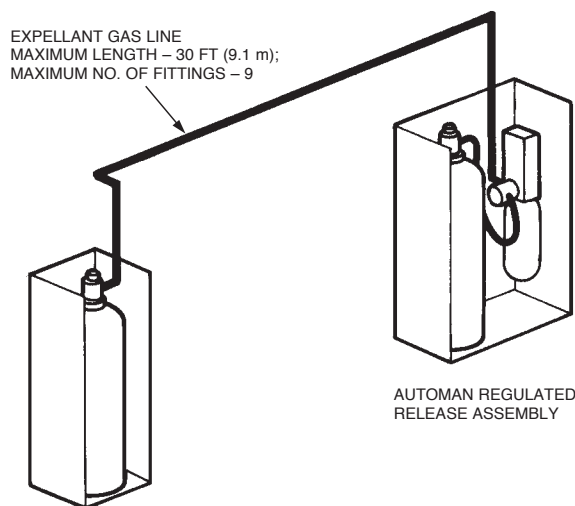
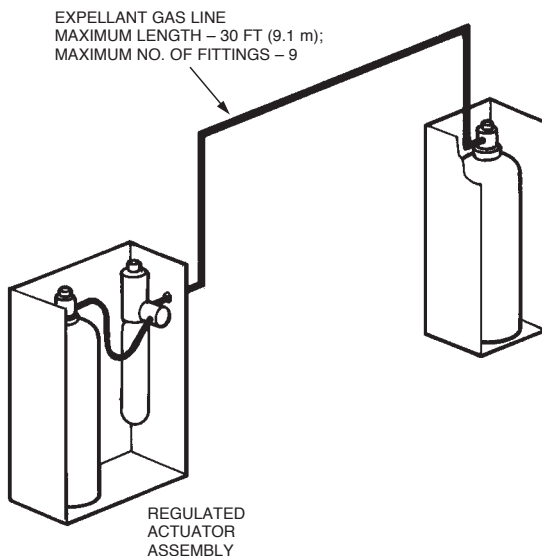

FIGURE 4-150
FIGURE 4-151
1. The Expellant Gas Line is installed from the regulated release mechanism in double, three, and multiple-tank systems, and from the regulated actuator assembly in multiple-tank systems. The expellant gas line is the piping and/or hose between the regulator and the tank-enclosure/tank-bracket assembly. The total length of the expellant gas line from the regulated release mechanism or each regulated actuator assembly **must not exceed** 30 ft (9.1 m) when using a double-tank cartridge, an LT-A-101-30 Cartridge, or a 101-30 Cartridge. See Figure 4-150 and Figure 4-151.